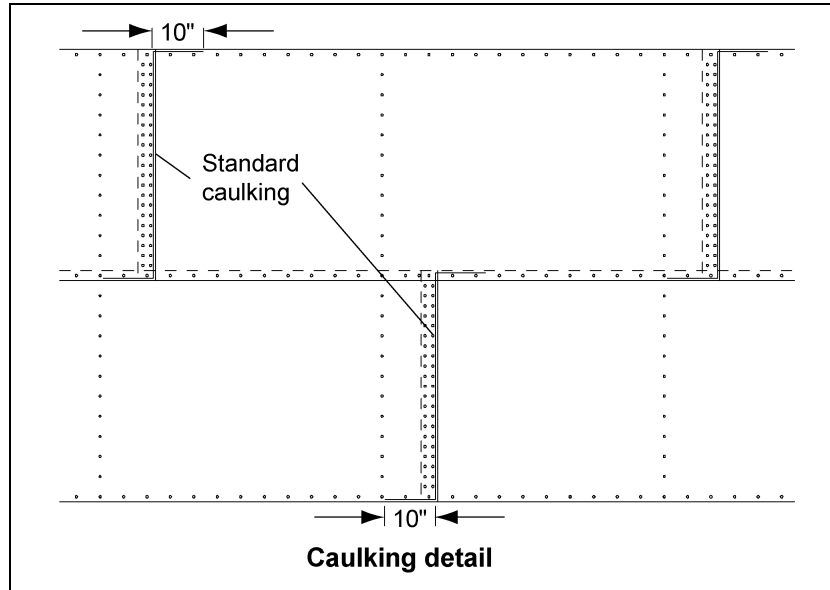

Figure 9C Standard Sidewall Sheets (As Viewed from Outside Bin)
1. Install rope caulk to each sheet before it is assembled. (See Figure 9C.)